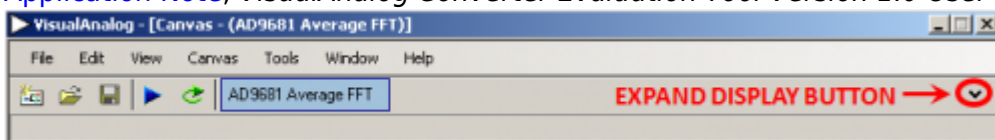
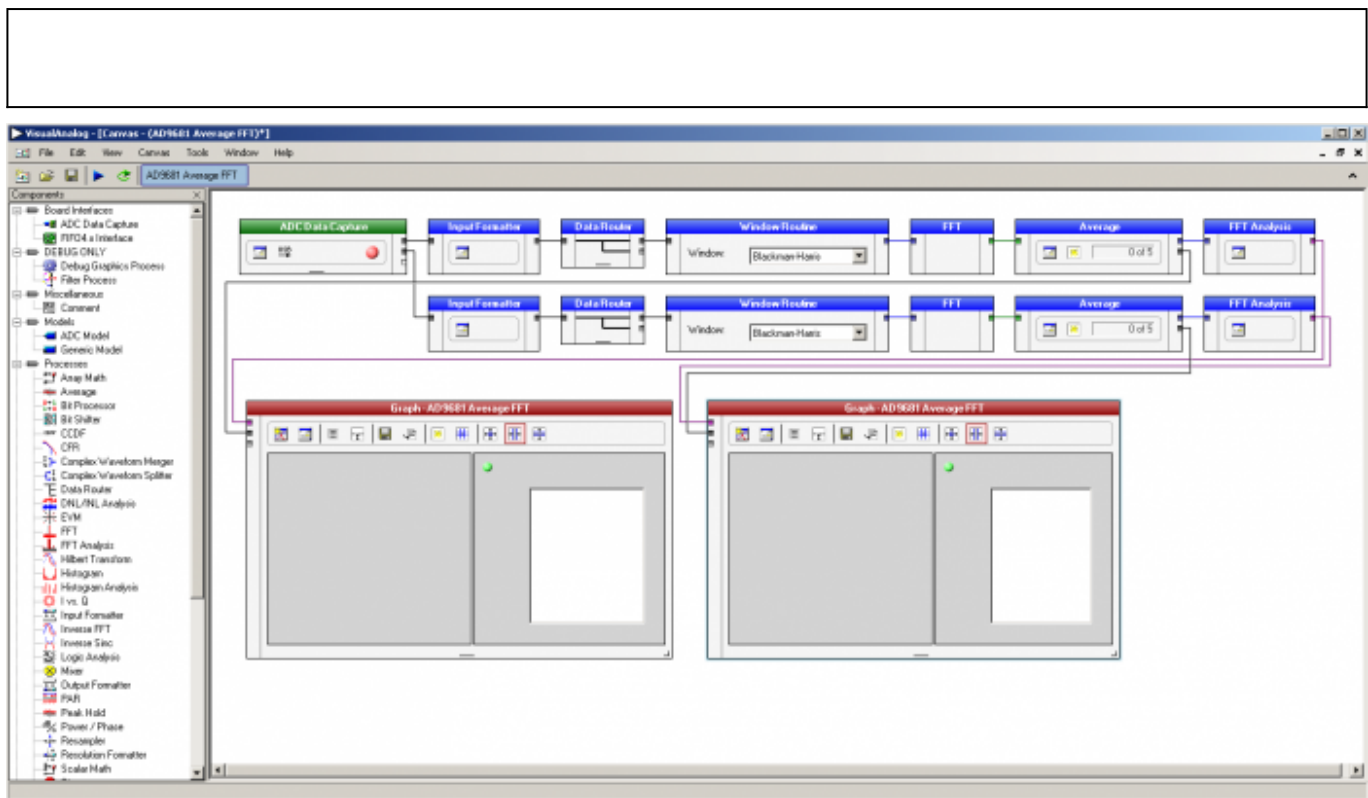

Figure 5. VisualAnalog Window Toolbar, Collapsed Display
Figure 6. VisualAnalog, Main Window Expanded Display
- To change features to settings other than the default settings, click the **Expand Display** button, located on the bottom right corner of the window (see Figure 5), to see what is shown in Figure 6.